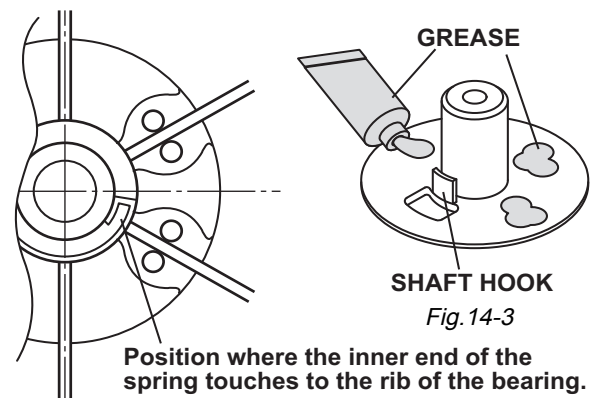

Fig.14-4
- 2 Adjust the position of the inner end of the spring in the reel. (Fig. 14-4)